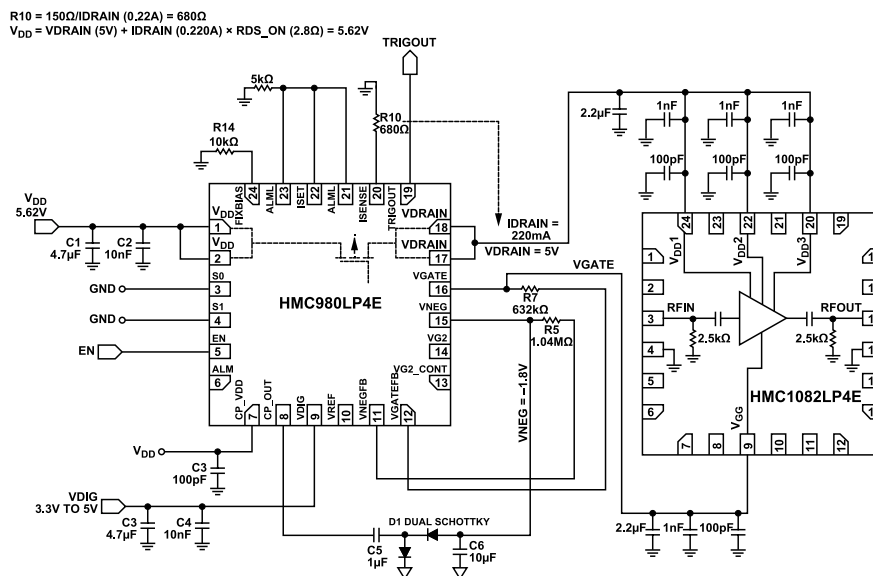

Figure 26. Application Circuit for Biasing the HMC1082LP4E with the HMC980LP4E
- The shunt V_{GG} capacitor values can be reduced to increase the rise time (see the HMC1082LP4E in Figure 26). Refer to the Reducing the Rise Time of the VGATE Voltage section for further details.